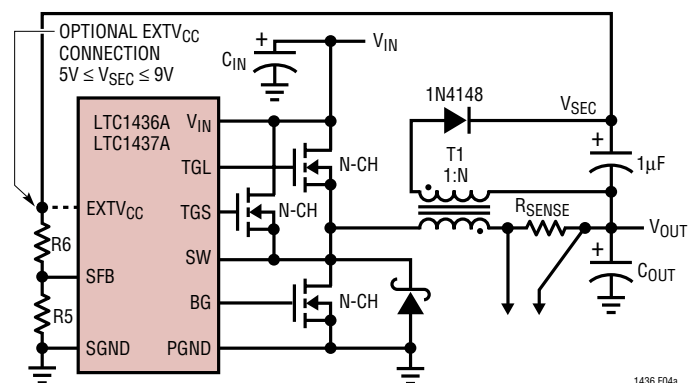
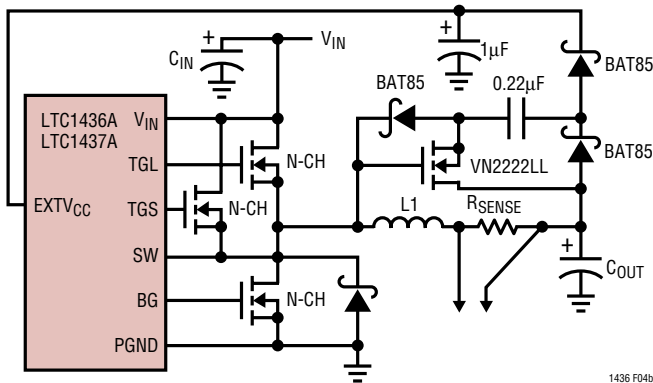

Figure 4a. Secondary Output Loop and EXT_VCC Connection
Figure 4b. Capacitive Charge Pump for EXT V_{CC}
3. EXT_VCC connected to an output-derived boost network. For 3.3V and other low voltage regulators, efficiency gains can still be realized by connecting EXT_VCC to an output-derived voltage which has been boosted to greater than 4.8V. This can be done with either the inductive boost winding as shown in Figure 4a or the capacitive charge pump shown in Figure 4b. The charge pump has the advantage of simple magnetics.
The secondary output voltage is set by the turns ratio of the transformer in conjunction with a pair of external resistors returned to the SFB pin as shown in Figure 4a. The secondary regulated voltage V_{SEC} in Figure 4a is given by: